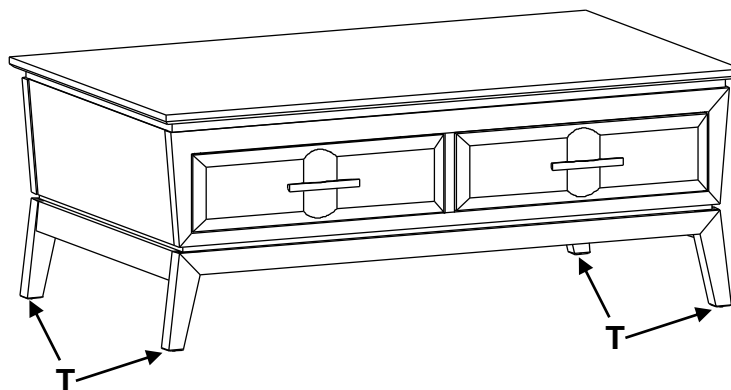

Fig. 2
2. Firmly hold the lift top closed and turn the table upright. Place the unit at its final destination. Rotate the Small Adjustable Glides (T) on the bottoms of the legs until the unit is level. See Figure 2.